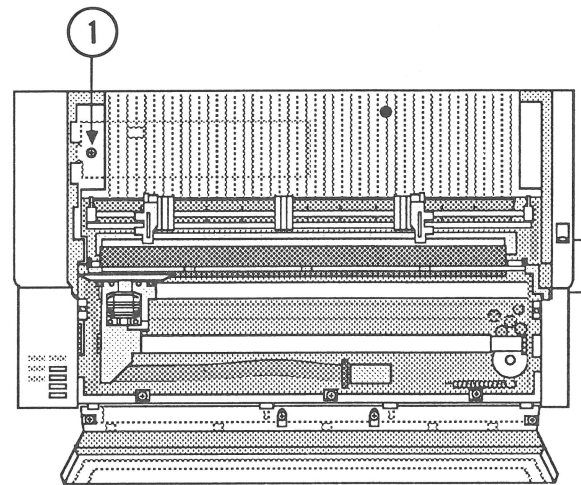

FIGURE 60
2. Remove the Phillips screw that secures the option card cover to the main cover (Figure 60, #1). Remove the option card cover.